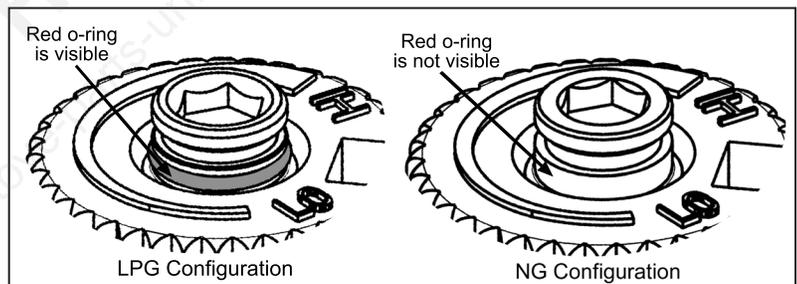

Figure 10: O-ring on valve screw.
f) Verify that if the conversion is from NG to LPG, the screw must be re-assembled with the red o-ring visible (refer to Figure 10). If the conversion is from LPG to NG, the red o-ring of the screw must be not visible.